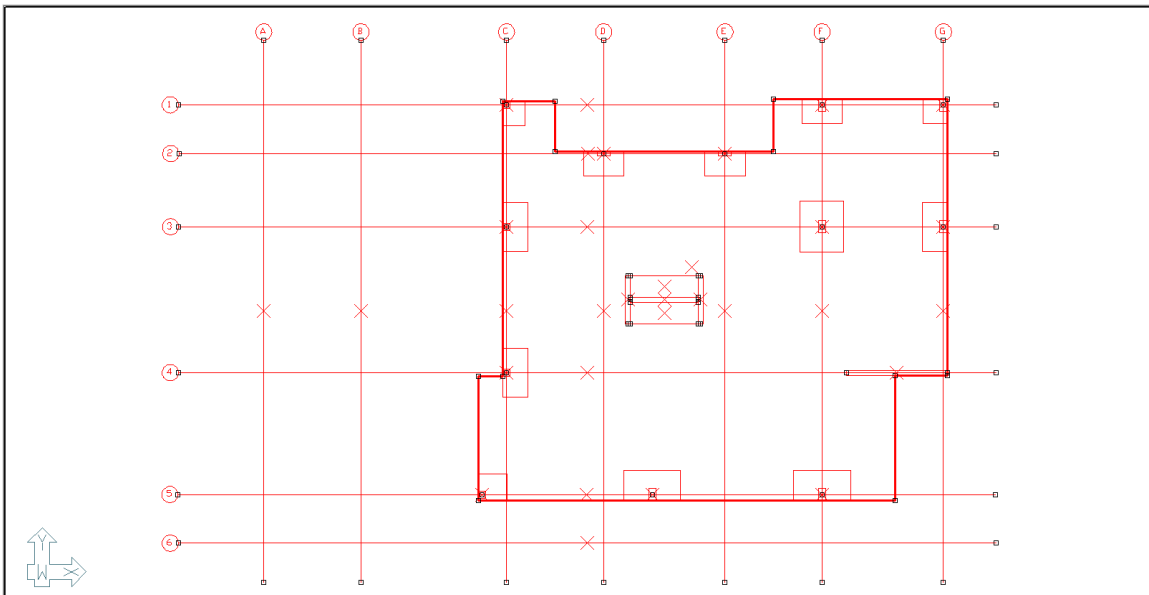

FIGURE 6-1
- Click on the **Zoom Extents**  icon. The user should see all items modeled highlighted in red to denote they have been selected as shown in **FIGURE 6-1**.